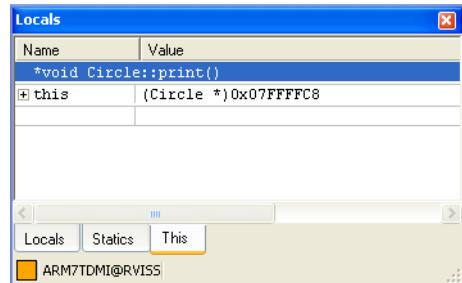

Figure 13-10 This tab in the Locals view
2. Click the **This** tab in the Locals view. Figure 13-10 shows an example: